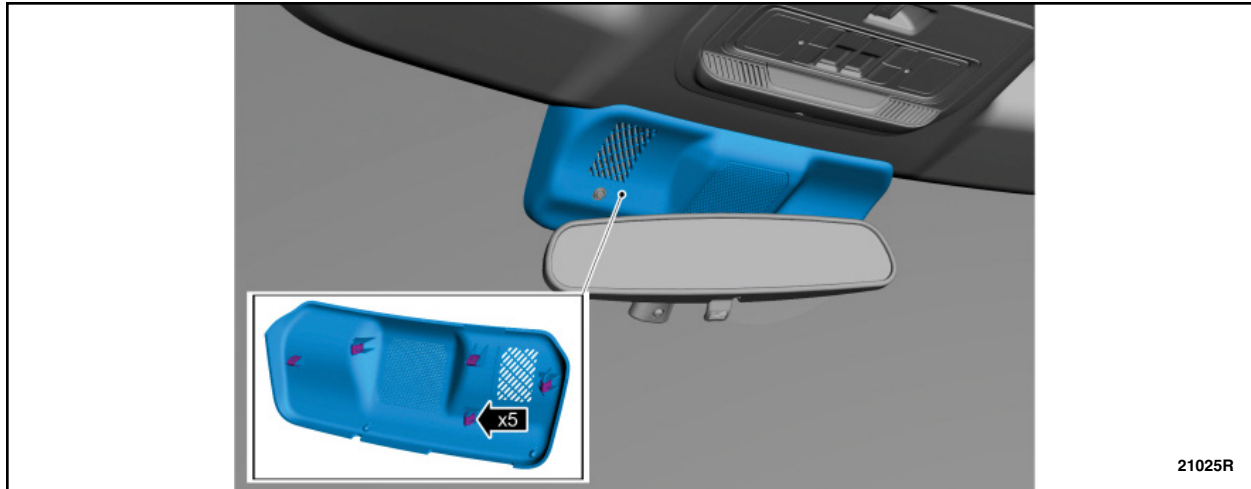

FIGURE 9
9. If equipped, remove the camera/rain sensor cover. See Figure 9.